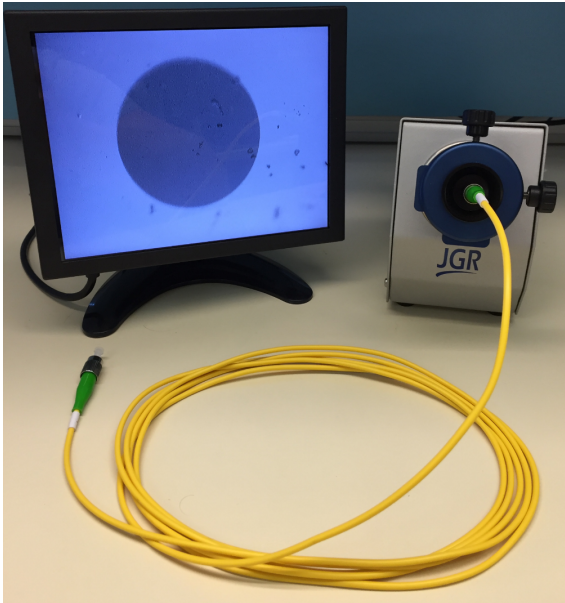
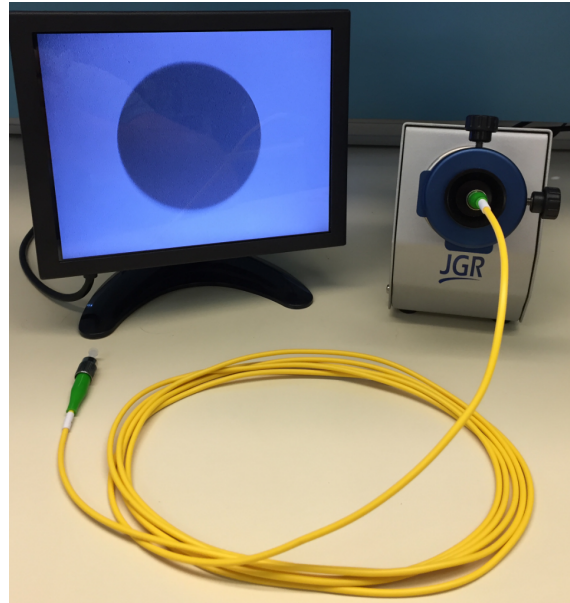

Figure 15: Dirty connector end-face inspection using SANTEC's EFI-100
Figure 16: Clean connector end-face inspection using SANTEC's EFI-100
1. Inspect all connectors before each mating and if needed, clean with a lint-free wipe and/or IPA. Figure 15 shows a dirty connector requiring cleaning. Figure 16 shows a clean connector ready to be mated.